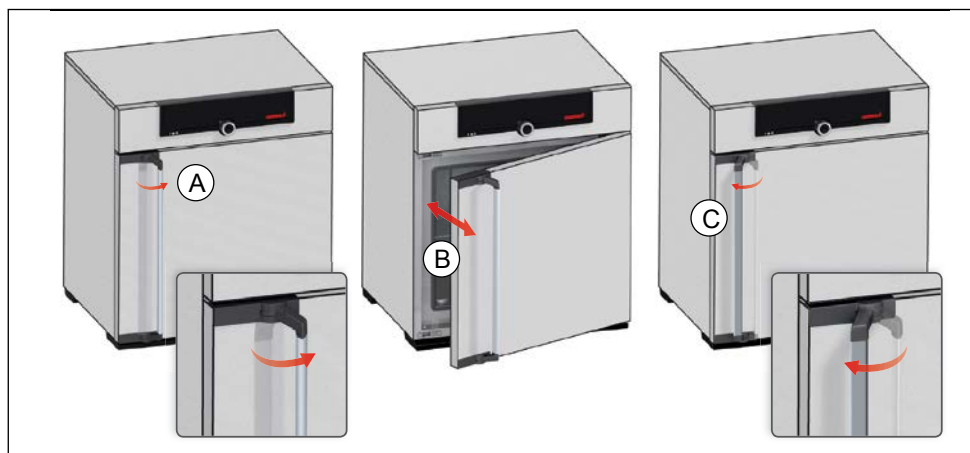

Abb. 13 Opening and closing the door
- ▶ To open the door, pull the handle bar to the side (to the left or to the right, depending on the door variation, see Abb. 13, A). The door opens slightly, so that the heat can be vented with the door ajar in case of high temperature inside the chamber. The door can then be opened completely (B).
- ▶ To close the appliance, push the door closed and the door handle to the side (C).